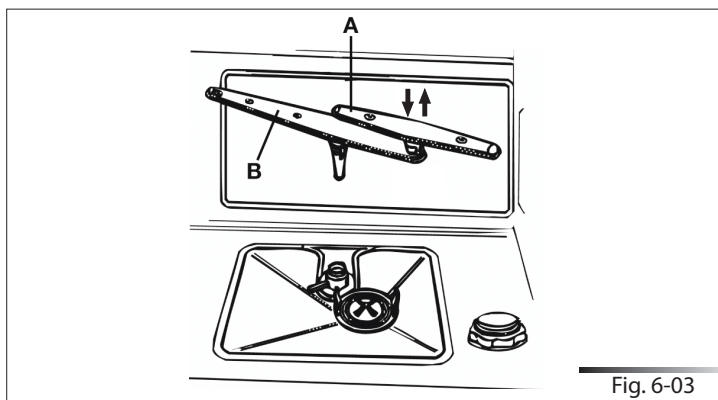

Fig. 6-03
- To remove the **orbital** spray arm assembly (ref. A fig. 6-03), take hold of the lower arm (ref. B fig. 6-03) and pull the orbital unit upward (see fig. 6-03).
After cleaning, remount the orbital spray arm in its seat and push it down slightly until it clicks into place on the lower spray arm (see fig. 6-03). Then remount the lower spray arm into its seat and push it down slightly until it click into place (see fig. 6-03).